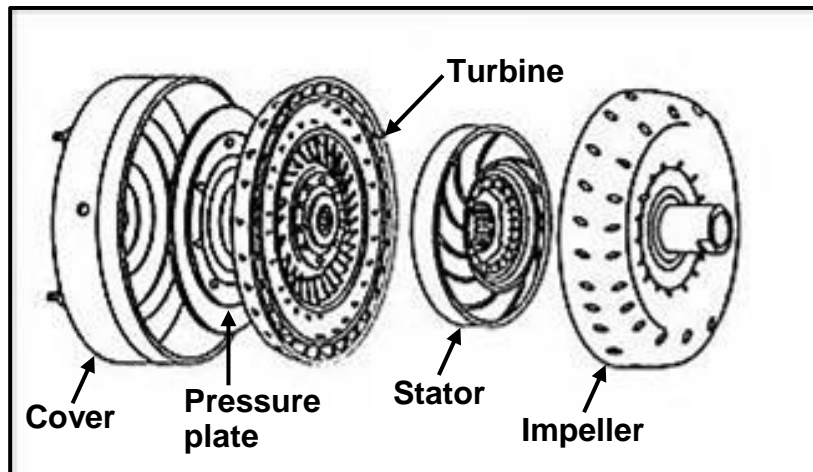

FIGURE 9.3
- 9.3 FIGURE 9.3 below shows an exploded view of a torque converter. Answer the questions that follow.